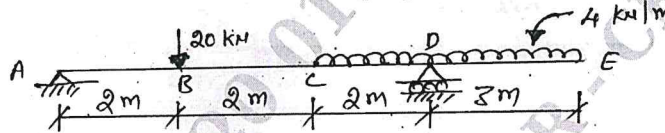

Fig.Q4(b)
b. Draw bending moment diagram and shear force diagram for the beam loaded as show in Fig.Q4(b), giving the salient values. Also locate the point of contraflexure, if any.